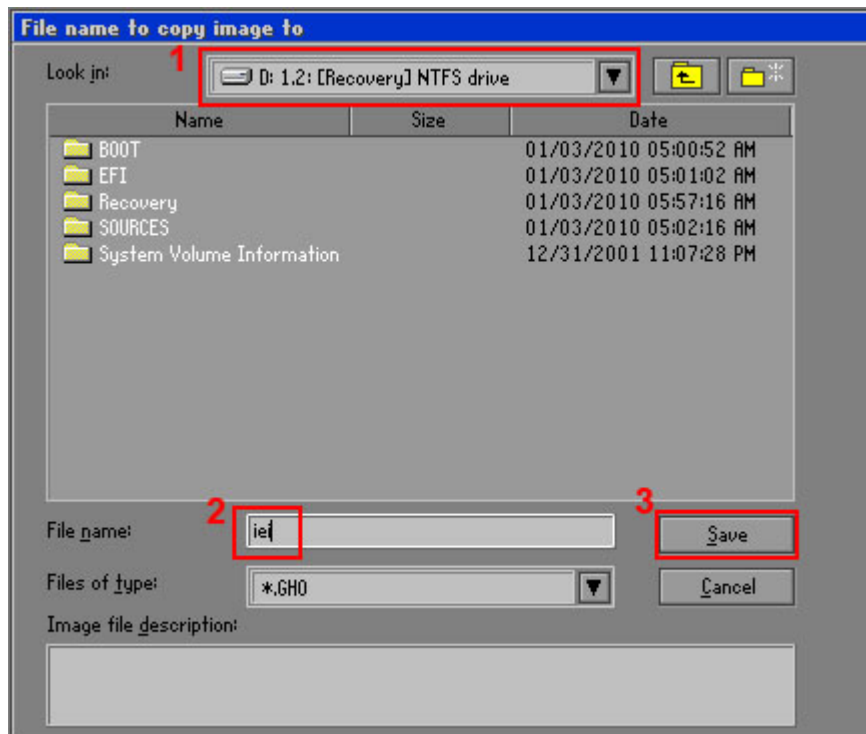

Figure C-13: File Name to Copy Image to
Step 7: Select **1.2: [Recovery] NTFS drive** and enter a file name called **iei** (Figure C-13). Click **Save**. The factory default image will then be saved in the selected recovery drive and named **IEI.GHO**.